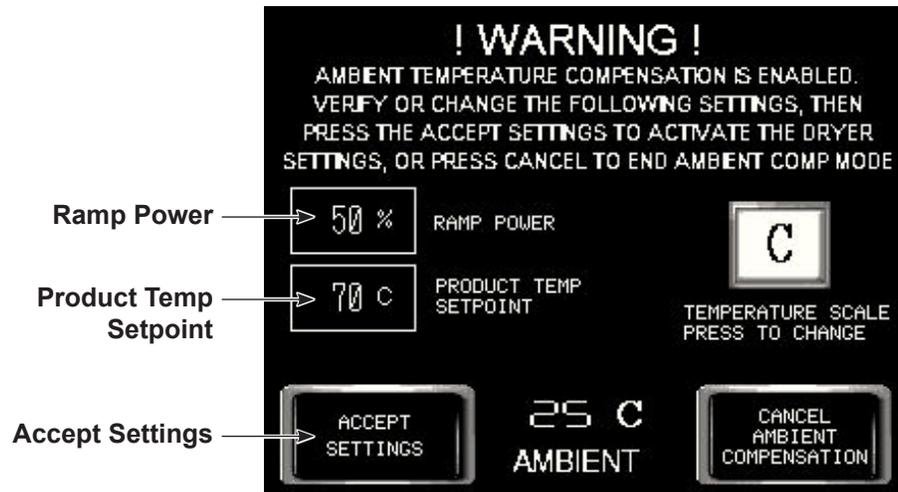

Figure 19 Ambient Temperature Setup Screen
3. See Figure 19. On the **ATC Setup** screen, touch the **Ramp Power** field and use the screen keypad to adjust ramp power.